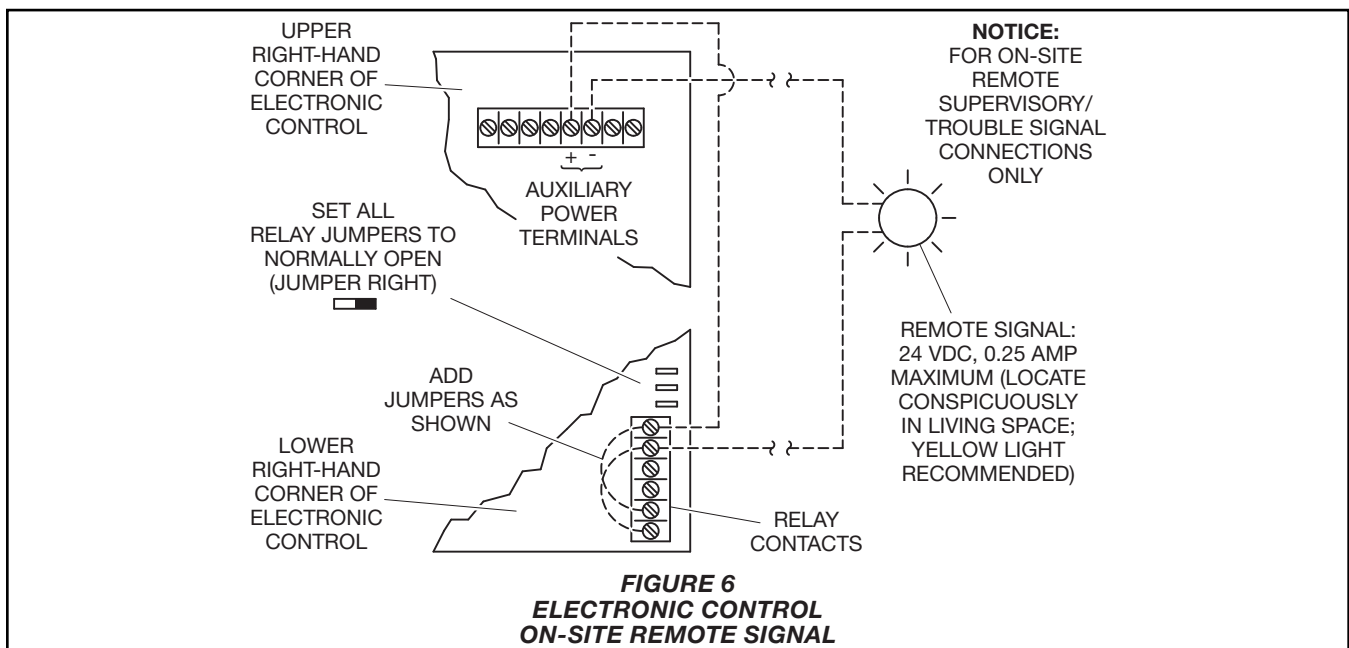

FIGURE 6
- Refer to Figure 6 for recommendation on wiring a remote signal on premise. As shown, an alarm, supervisory, or trouble signal will result in activation of the remote signal.